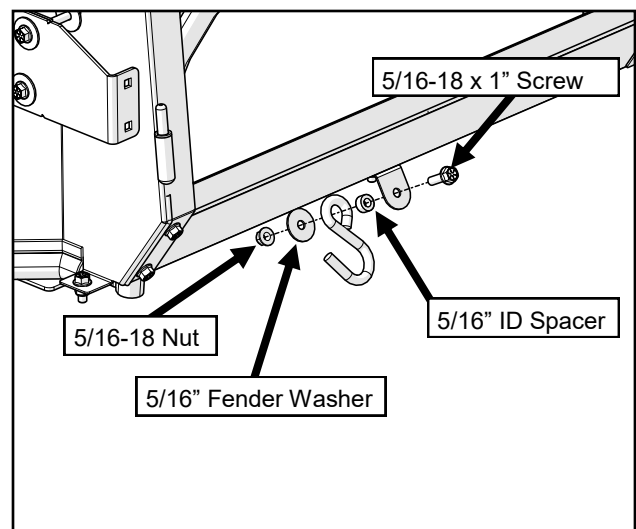

Fig. 18.2 (Install Top Link Hook)
**18.2** Install the top link hook to the top link bracket. See Figure 18.2. Note: Orientation of the hook opening is personal preference.